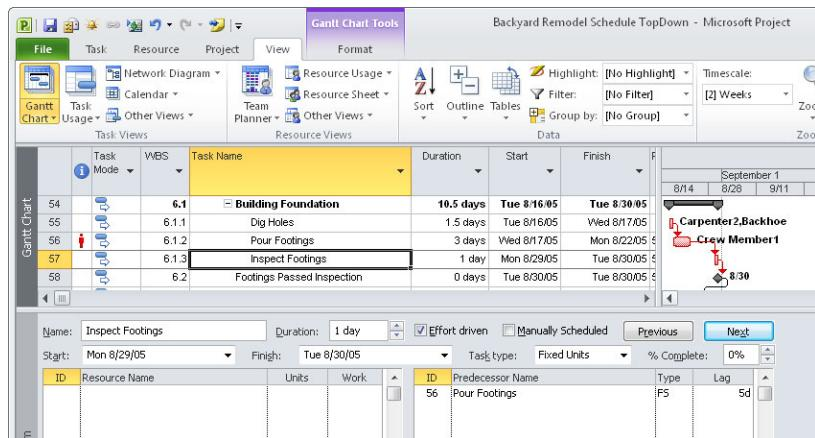

FIGURE 6-3 A task form includes fields for specifying the task dependency type and the lag between the two linked tasks.
- **Using a Microsoft Project task form** This technique is the most flexible way to create dependencies. You can choose any type of dependency or add lag to the links. On the View tab, in the Split View group, choose More Views. In the More Views dialog box, click Task Form or Task Details Form, and then click Apply. As demonstrated in Figure 6-3, the start of the footing inspection lags 5 days after the footings have been poured.
- **Dragging between two tasks** If you can see the bars for both tasks in the Gantt Chart (refer to the Dig Holes task in Figure 6-3 to see an example of a Gantt Chart bar), dragging from the predecessor to the successor gives you a visual cue that you’re creating the dependency correctly. You see a link from the predecessor to a link of chain on the successor, and a box pops up showing you the finish-to-start dependency you’ll create when you release the mouse button.